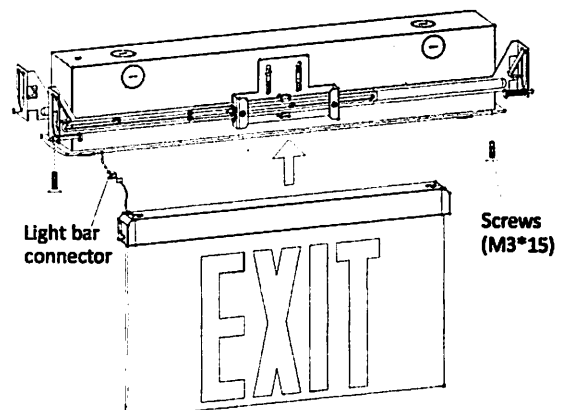

Fig 6
7. Assembly trim plate back use M3*15mm screws.(see Fig 6 or 7)
8. Connect light bar connector, assembly panel module to trim plate, adjust position of lamp heads as need.(see Fig 6 or 7)